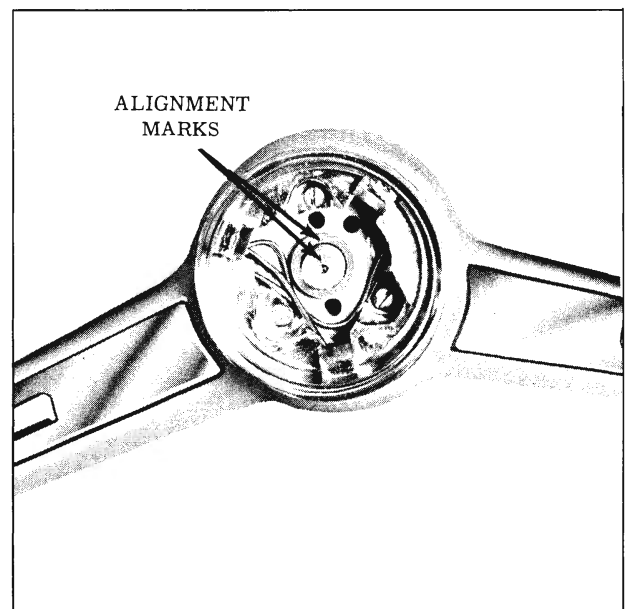

Fig. 4-283 Steering Wheel to Shaft Alignment
1. Place steering wheel on splined steering shaft with alignment marks in line. (Fig. 4-283)